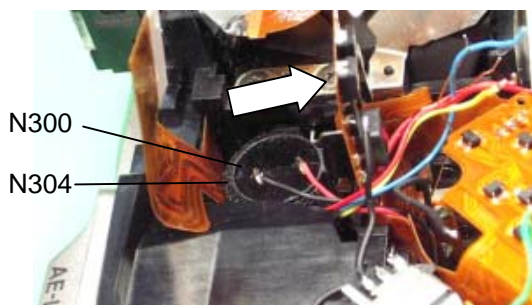

Fig.43
-5. Remove N300, while lifting up 0-T100 as shown in Fig.43.